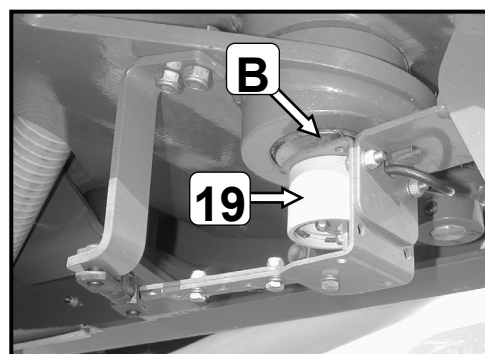

Fig. 10
- Confirm the value "0" or "1" with the **OK-key**; the second value for potentiometer (19) on the drawbar - or axle steering point (B) is blinking (fig. 10 or 11).
- Confirm the displayed value for the rear potentiometer (19, fig. 10 or 11) with the **OK key**. The values for the potentiometers for *Automatic central position* have now been recalibrated.
In *screen 31* the *dead zone dz* of the potentiometers and the steering response can be adjusted. The *dead zone* of the rear potentiometer (19, fig. 10 or 11) (at the drawbar or the swivel axle) is a narrow area where the central position may deviate from the preset central position.
The *dead zone "dz"* of the rear potentiometer (19, fig. 10 or 11) is factory-set at a value between 2 - 6 and does not have to be modified as a rule.
- Switch to input mode by pressing the **OK key**; the value of the rear potentiometer (19, fig. 10 or 11) and maximum steering deflection is *blinking*.
- Switch to input mode by pressing the **OK** key; the value of the rear potentiometer (19, fig. 10 or 11) at maximum steering deflection is *blinking*.